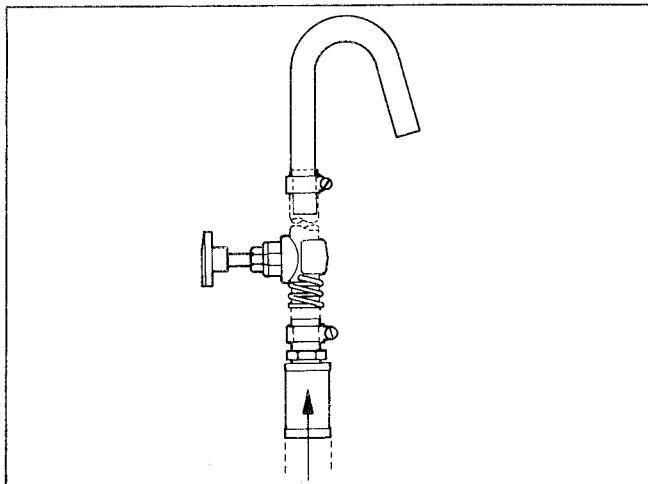

Figure 5. Type SL System
**a. Type SL (Figure 5):** Consists of 3/4" coupling, 3/4" slip-on hose fitting, 2 (two) stainless hose clamps, 8" steel wire spring to prevent hose kinking, hook over nozzle.